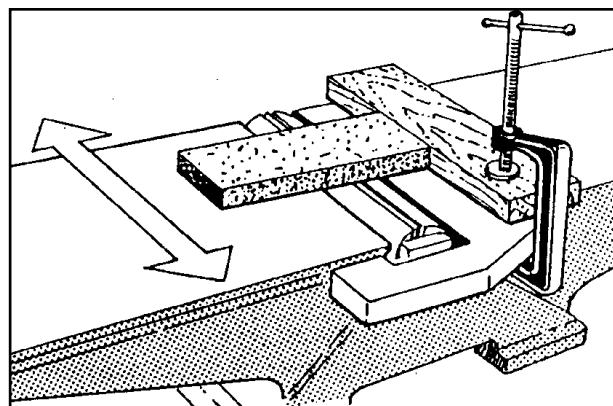

FIG. 17
3. Clamp a block of wood across the infeed table as shown in Fig. 17 in order to block the end of a fine India stone or oilstone during the jointing operation. This helps to prevent kickback of the stone.
5. Keeping hands well clear of the cutterhead, place the stone into position as shown in Fig. 17, and slide the oilstone back and forth across both tables until the knives are lightly jointed.